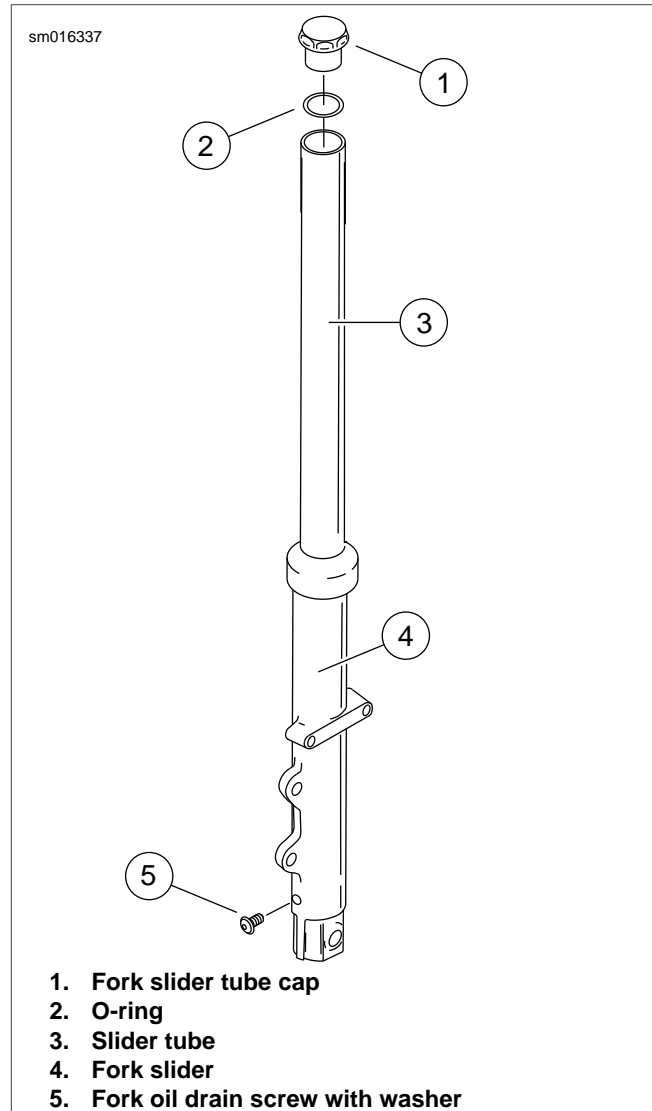

Figure 1-62. Draining Front Fork Oil
2. Place a drain pan under bottom of right fork slider. See Figure 1-62. Remove drain screw and washer (5) from bottom of one slider (4).